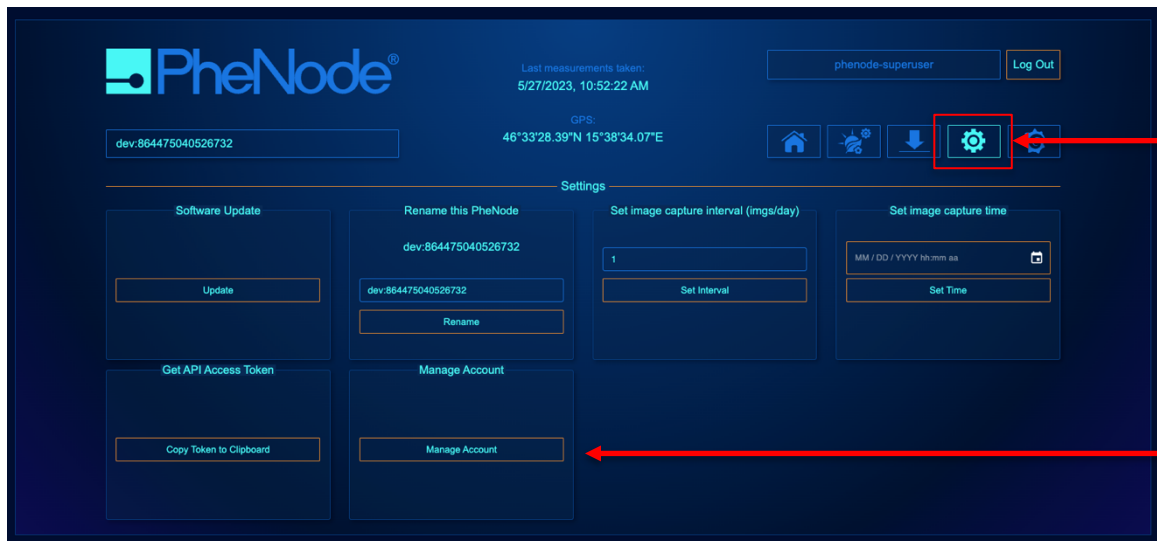

Figure 6. Settings Screen in the PheNode GUI. Red arrows point to the “Settings Screen” button and the “Manage Account” link.
2. Login using the temporary username and password provided in the email. Navigate to the “Settings Screen” of the PheNode GUI (Figure 6)
3. Click on “Manage Account”. (Figure 6) This will open a new tab in your browser and take you to “Keycloak Account Management”.